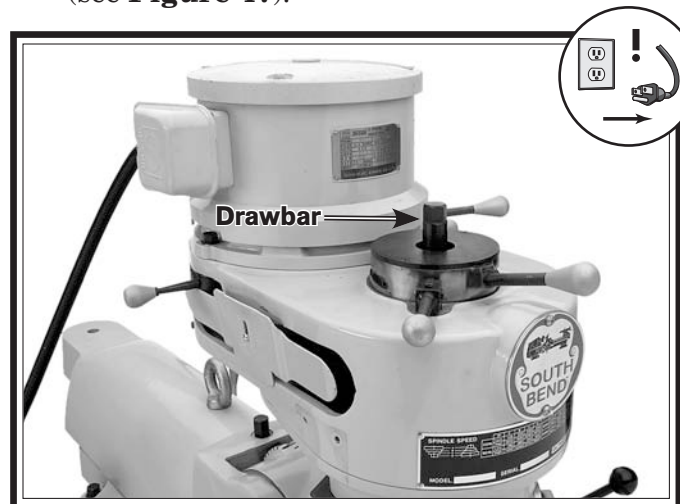

Figure 47. Drawbar loading into the spindle (Model SB1025 shown).
5. With one hand holding the tool in place, insert the drawbar into the spindle from the top of the head, then thread it into the tool (see **Figure 47**).